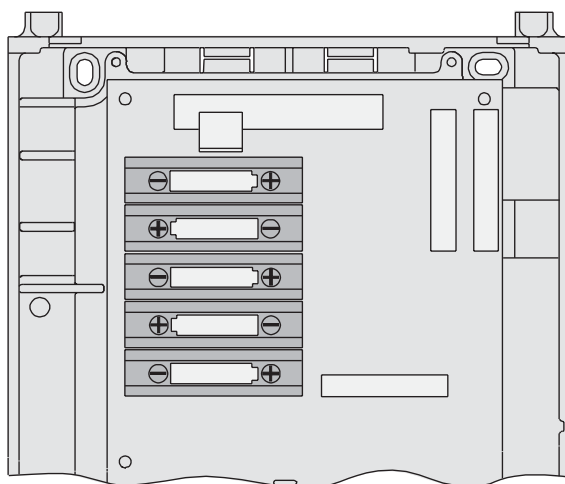

Fig. 1.e: Battery compartment inside the radio control unit
5. Insert the batteries. Pay attention to correct polarity as shown in fig. 1.e.